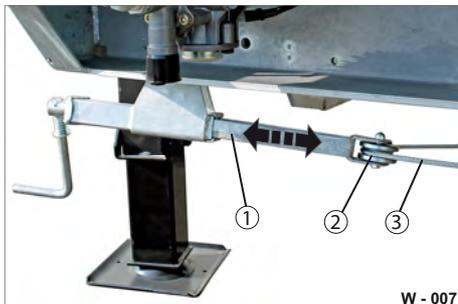

Fig. 7 Lubricating the screw parking brake
- ▶ Check the stroke linkage (Fig. 7/1), guide pulley (Fig. 7/2) and transfer cable (Fig. 7/3) for damage/ deformation/cracks.
- ▶ Grease the guide pulley (Fig. 7/2).